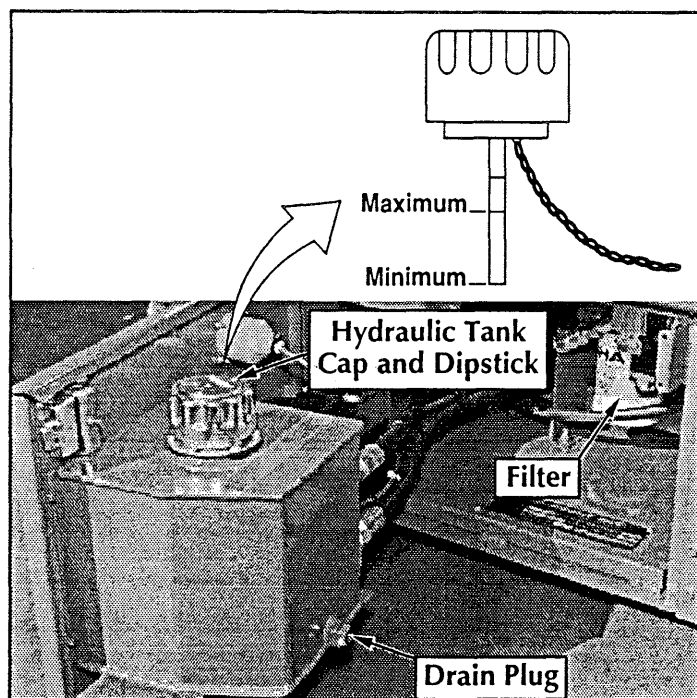

Figure 4-4: Hydraulic Oil Tank and Filter
## HYDRAULIC OIL TANK AND FILTER (Figure 4-4)
9. Fill the hydraulic reservoir with hydraulic oil (see Section 1.2) until the oil comes up just past the end of the dipstick, Figure 4-4. Hydraulic tank has a 1.8 gal. (7 l) capacity.